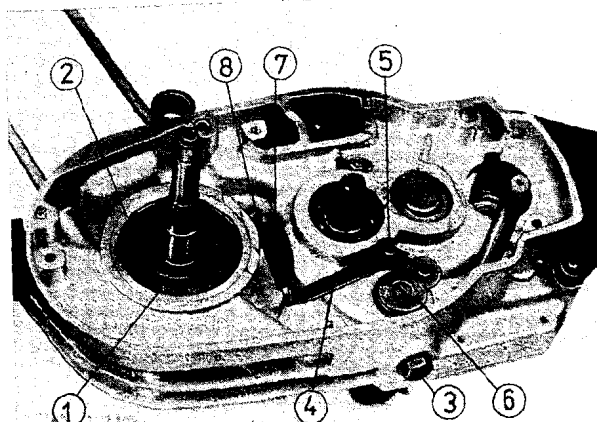

Fig. 67. Mounting the gear-shift detent
- Press the shaft seal ring D 25 x 72 x 7 (1) in the clutch side by means of mandrel 29-50.409 (prior to this, oil the sealing lip; it points to the clutch!);
- Mount the wire circlip (2) to lock the shaft seal ring;
- Screw the gear-shift detent screw (3) in place together with packing ring, compression spring and ball;
- Put the gear-shift detent lever (4) on the projecting guide bolt (5), engage it with the drum cam (6) and hook the tension spring (7) on the notched nail (8) (Fig. 67);